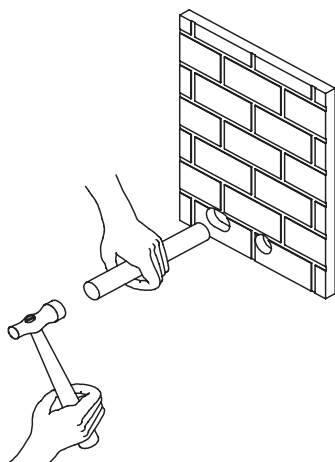

Figure 9 - Removing Knockout
2. Place end of a 1" diameter wood dowel or metal pipe inside knockout area and punch out entire 1" x 1.5" slotted area (see Figure 9).